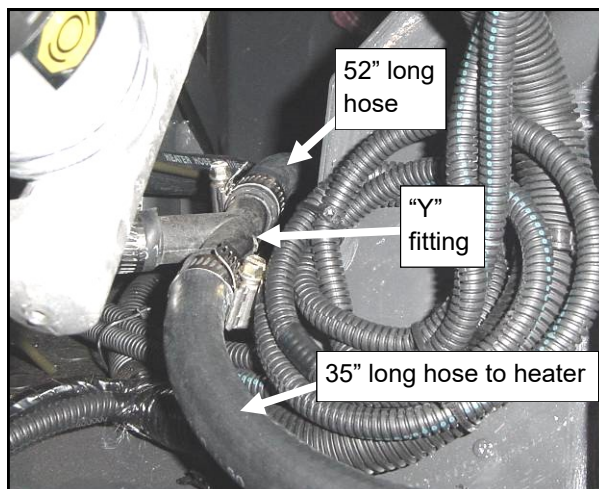

Fig. 3.8 (view from front of vehicle)
3.8 Connect the supplied "Y" fitting to the end of the 52" long hose as shown in fig. 3.8. See the flow diagram on the next page. Use a supplied hose clamp.